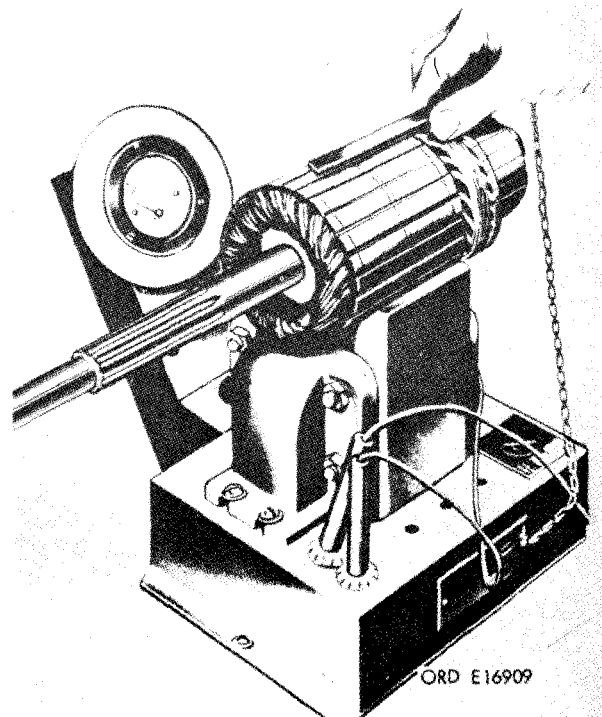

FIGURE 21. TESTING ARMATURE FOR SHORT CIRCUITS USING A GROWLER.
- (3) Inspect armature for short circuits using a growler fixture. Place the armature in the growler as shown in figure 21. Hold a thin strip of steel, such as a hacksaw blade about 1/32 inch away from armature. While holding the steel strip in position, rotate the arma-